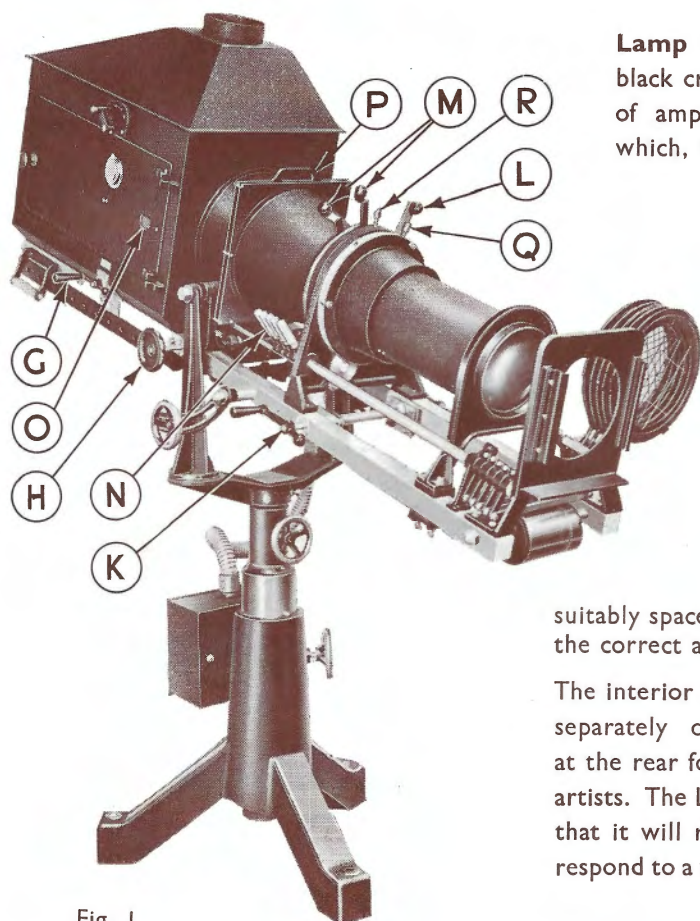

Fig. 1
**Iris Diaphragm.**—The diaphragm is of the 24 leaf type, giving a good circle reasonably free from "flats" in all positions. A lock **Q** (fig. 1) can be used to cause the Iris diaphragm lever to operate the mirror focussing without the need to use handle **G** at the same time. The lock will ensure that the maximum amount of light is passed by the Iris for all positions.
**Heat Absorbing heat resisting glass.**—**P** (Fig. 1.) This is fitted to the lamphouse to protect the shutters and colours from excessive heat in place of the old arrangement of an electrically operated blower.